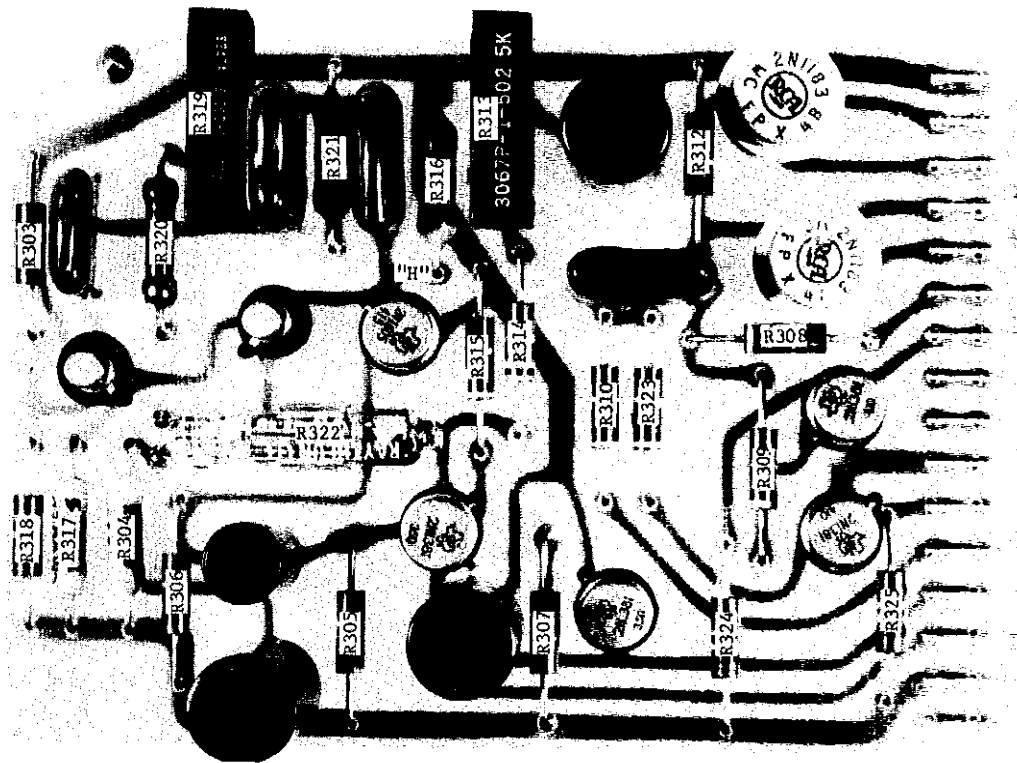

FIGURE 37. Resistor and Test Point Locations on Printed Circuit 75. An alternate location for point H is shown in Figure 29.
2. Set the oscillator frequency to 94 cps ± 0.1 cps with potentiometer R319 (Figure 37).
3. Set the oscillator signal amplitude to 15.4 volts peak-to-peak ± 0.2 v peak-to-peak, measured on the oscilloscope. Adjust with potentiometer R313 (Figure 37).